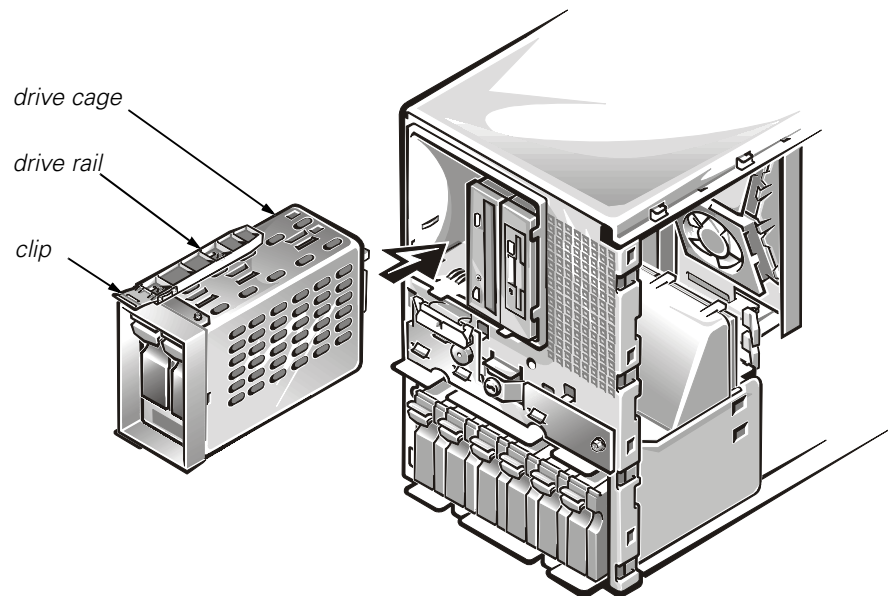

Figure 1. Installing the Drive Cage
2. Insert the drive cage into the empty peripheral drive bay until the clips on the drive rails snap into the sides of the peripheral drive bay (see Figure 1).